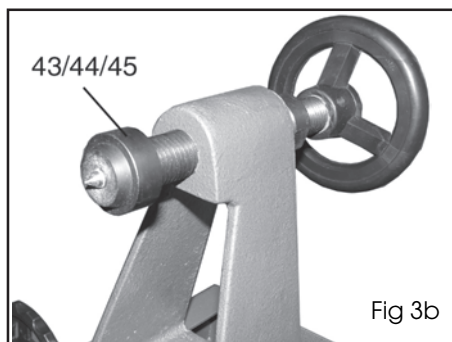

Fig 3b
3. Insert the tail-stock spindle assembly (43/44/45) into the tail-stock as shown in Fig 3b, the taper of the shaft gripping it in place.